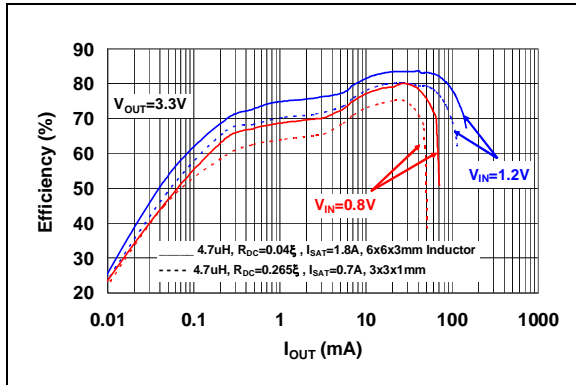

FIGURE 11: Efficiency @ $V_{OUT} = 3.3\text{V}$ vs. Output Current for Two Inductor Types (with Different R_{DC} and I_{SAT}).
Figure 11 demonstrates the influence of size and R_{DC} (DC series resistance of inductors) in the design, for two inductor types:
- Choose an inductor with lower DC series resistance (see Figure 11)